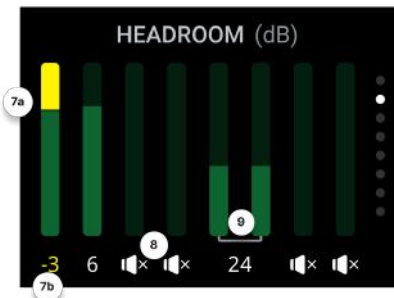

Fig. 1.6 - Headroom page
The Headroom page shows the amount of headroom left for each channel (Fig. 1.6). When limiting is engaged, the bar drops from the top edge in yellow (7a), showing the gain reduction in dB (7b). When one or more channels are muted, the Mute state is engaged. A steady mute icon (8) means that the output is muted, while a blinking mute icon indicates that another type of control is muting the output (e.g. a group). When two channels are bridged, a connection between the channels is displayed (9).